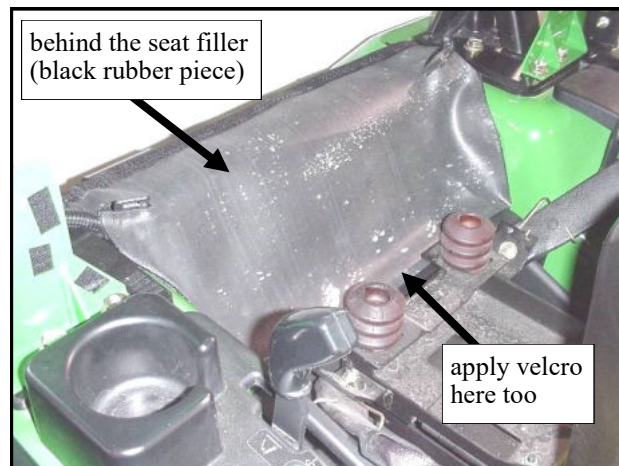
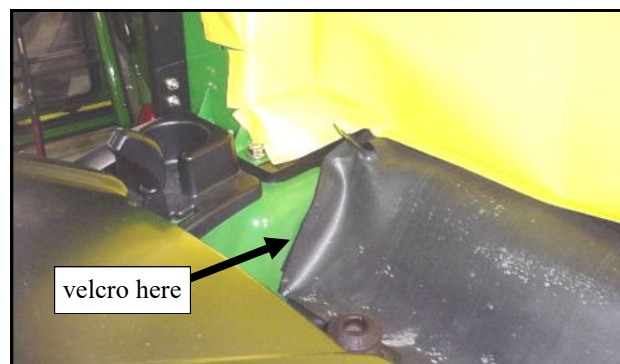

Fig. 2.1 Behind seat filler
Fig. 2.1.1 View from left side
2.1 Note: adhesive-backed velcro should be applied to a clean, dry surface at room temperature. Tip the seat up if it's not already. Lay out the rubber filler as would seem appropriate then apply the self-adhesive hook velcro where needed (i.e.: vehicle fenders, etc.). See figures 2.1 and 2.1.1. Note: fig. 2.1.1 shows a soft side rear curtain in place. The seat belt storage brackets should fit into the clearance slits provided in the rubber. Adhere the behind seat filler to the newly installed velcro strips.